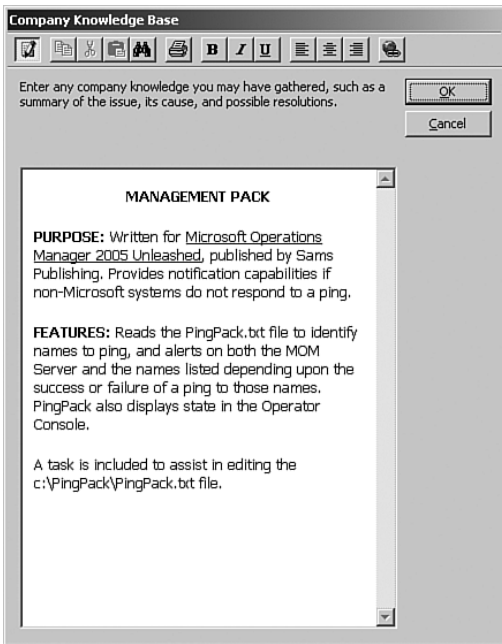

FIGURE 20.18 Rule Group properties—Knowledge Base.
3. At the Knowledge Base screen click Edit and enter information to describe the function of the *PingPack*. Figure 20.18 shows a sample of this content.